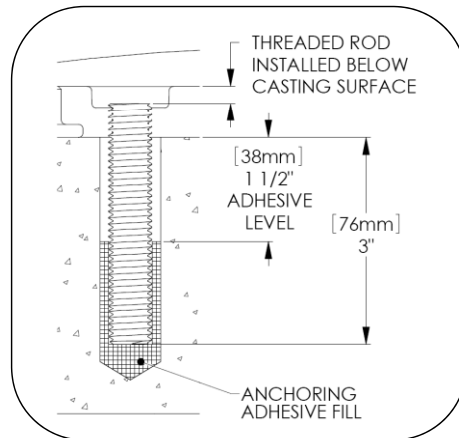

Fig. 4. – Install threaded rod
1. Thread anchor rods into bike rack as shown in Fig. 4.
2. Fill holes with adhesive to level shown in Fig. 4.